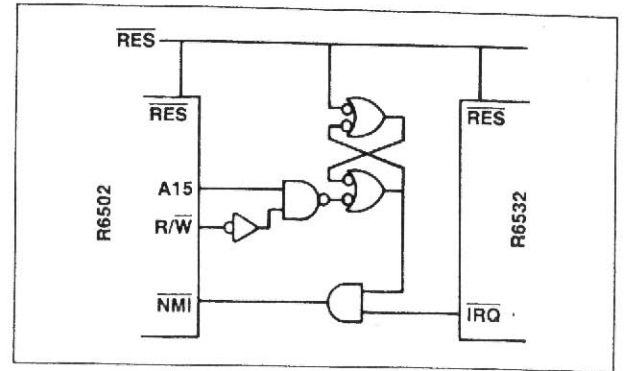

Figure 2. Scheme for Gating to the NMI Input
3. Gate the R6532 $\overline{\text{IRQ}}$ output to the R6502 $\overline{\text{NMI}}$ input with a circuit which is enabled by the initialization routine of the processor. Figure 2 shows a possible configuration, with the gate enabled only when the processor does a write operation with A15 high. Note that this scheme essentially allows disabling of the $\overline{\text{NMI}}$ in the R6502.